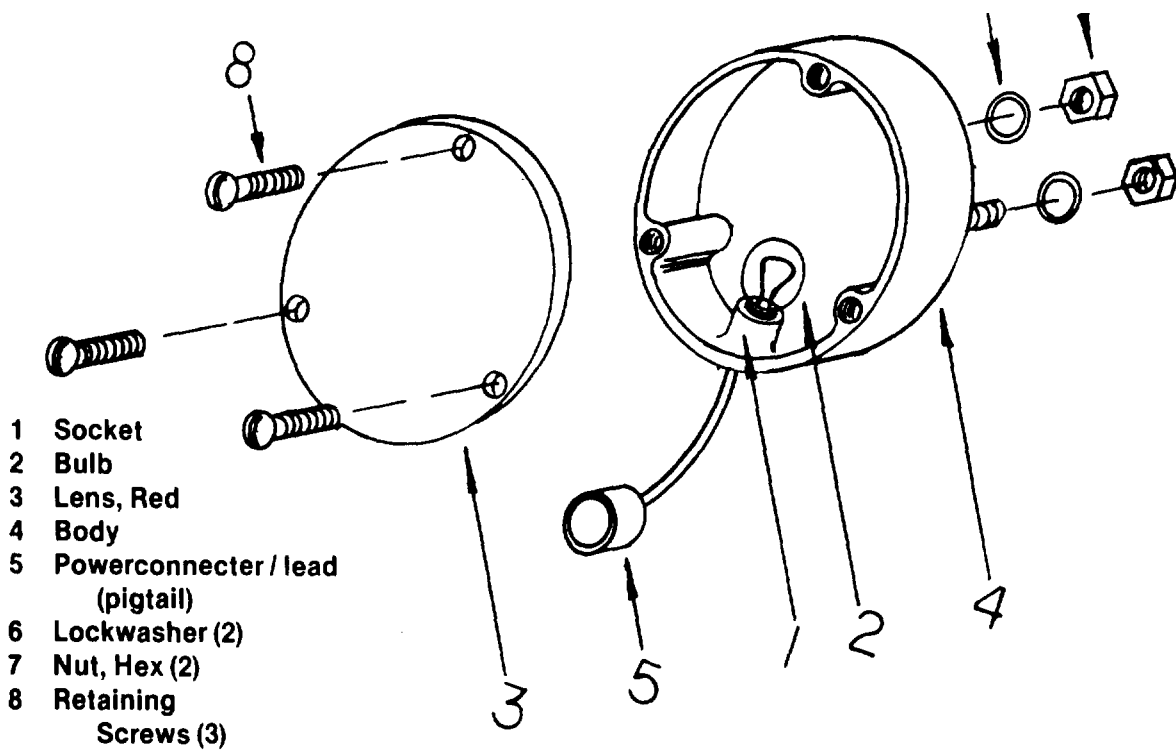

Figure 27. STOP, TAIL, AND IDENTIFICATION LAMPS.
d. Refer to Fig. 27 and remove the stop, tail, and identification lamps.